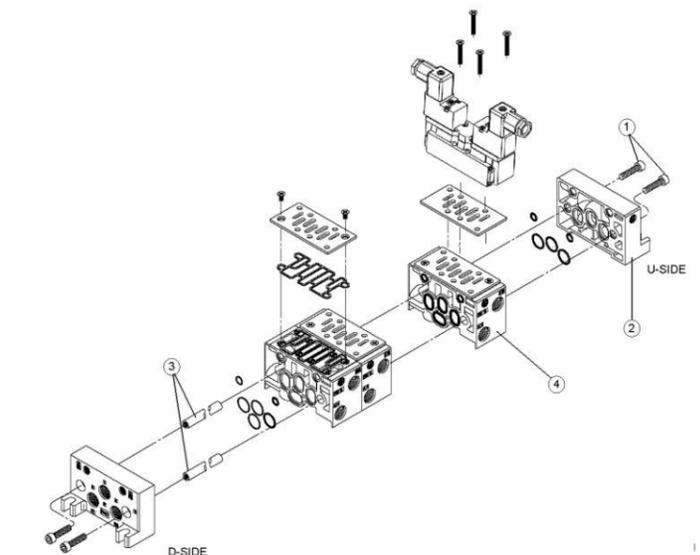

Figure 11
- ISO Size 1 Valves (see Figure 11)